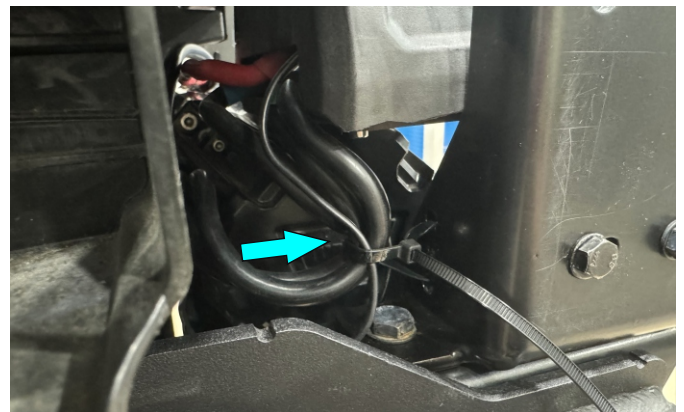

Fig.50
50. Secure factory wiring using cable ties (item U). Connect the winch (fig.50).